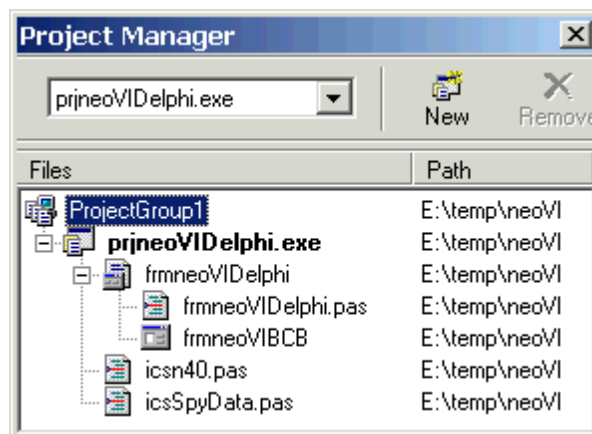

Figure 2 - The import library "icsn40.pas" is loaded.
3) Your project manager will now show the import library icsn40.pas (Figure 2).